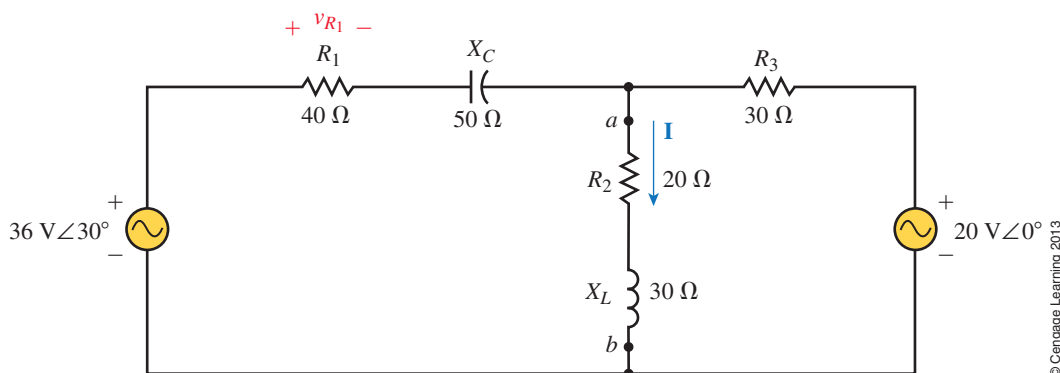

FIGURE 20–72
8. Repeat Problem 7 for the circuit of Figure 20–73.